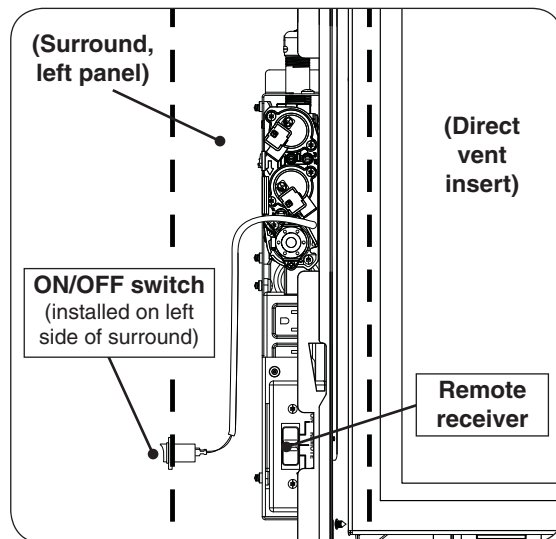
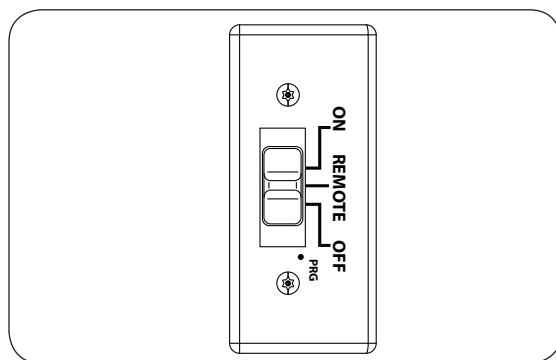
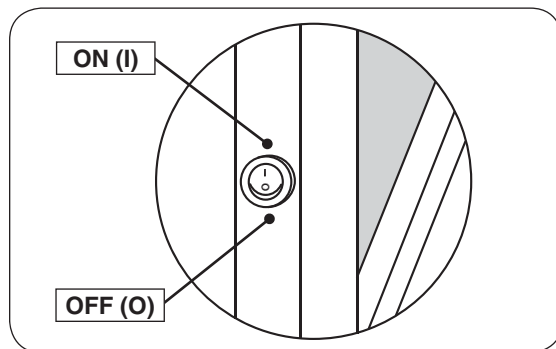

Fig. 41-1 Control box (left side, behind surround)
Fig. 41-2 Remote receiver detail
Fig. 41-3 ON/OFF switch detail
1. The control box is on the left side of the unit. Locate the remote receiver on the control box (see Fig. 41-1). Slide the 3-position switch on the receiver to the **REMOTE** position (see Fig. 41-2).
2. Locate the ON/OFF switch on the left side of the surround (see Fig. 41-1). Switch it to the **ON (I)** position (see Fig. 41-3).